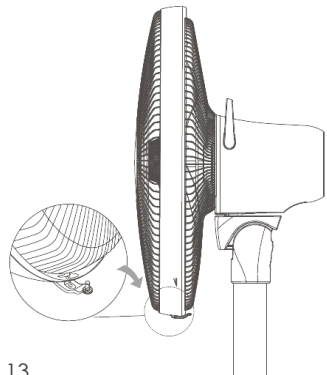

FIG.13
- ◆ Check if the fan grilles are deformed or touching the blade. If so, disassemble and re-assemble grilles & fan blade (refer to Fig.13 / Assembly Step 6, Pg.7).
- ◆ For details on how to remove the front grille for cleaning purposes see Fig.13 on Page 7.